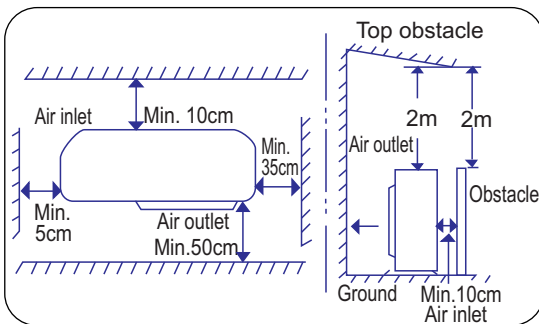

Fig. 8.1
- Have desired space for air inlet, outlet and maintenance. (Figure 8.1)